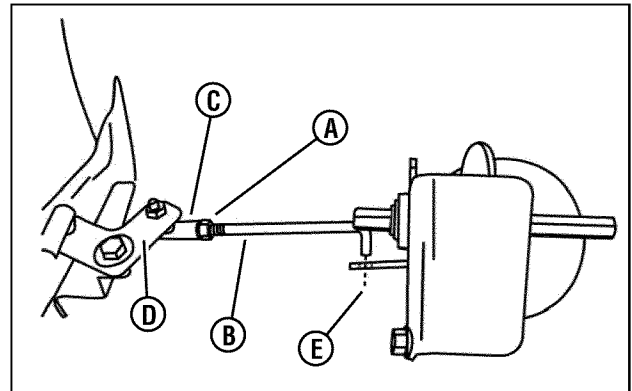

Figure 30: Adjusting the transfer rod
- Loosen the jam nut (A, Figure 30) securing the transfer rod (B) to the ball joint (C) on the pivot bracket (D).
- Turn the rod in or out of the ball joint until the end of the rod aligns with the hole (E) in the driven disc assembly from which the rod was removed.